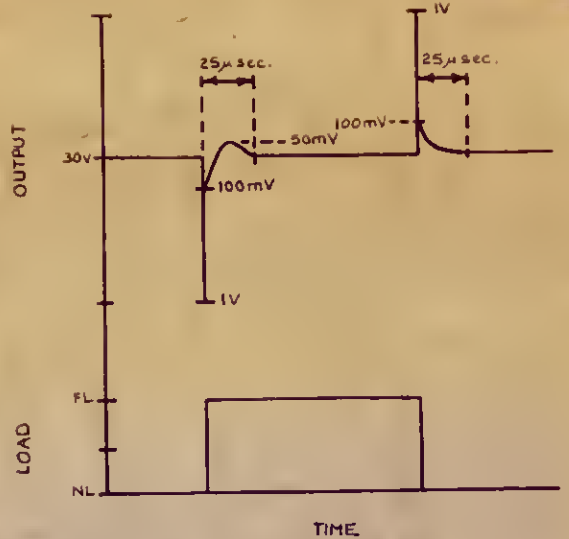

Fig 3. Pulse Response
- (ii) *Transient Response*—The typical response to a pulsed load is shown in fig. 3. This is measured with appropriate O/P and F/B terminals linked at the terminals (see note on Remote Sensing).